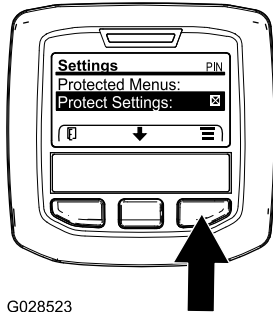

Figure 36
1. From the MAIN MENU, use the center button to scroll down to the SETTINGS MENU and press the right button (Figure 36).